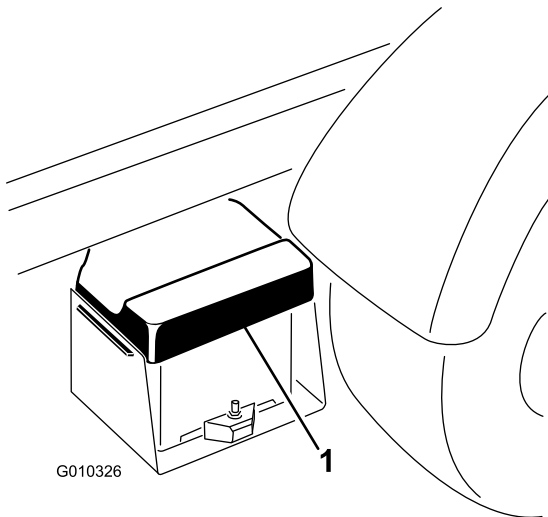

Figure 49
1. Squeeze the battery cover to release the tabs from battery base, and remove the battery cover from the battery base (Figure 49).